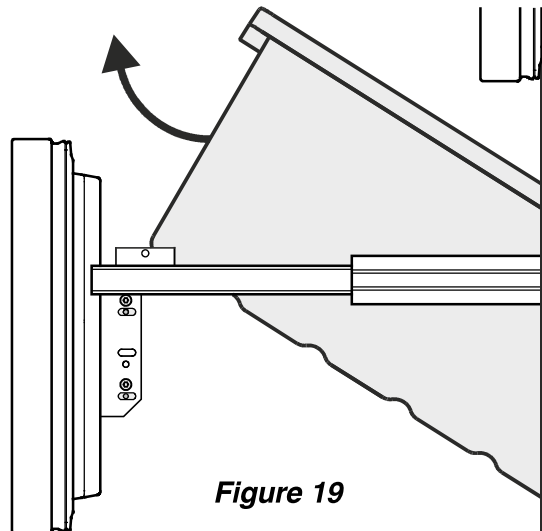

Figure 19
- Tilt the container at an angle and remove - **Figure 19.**